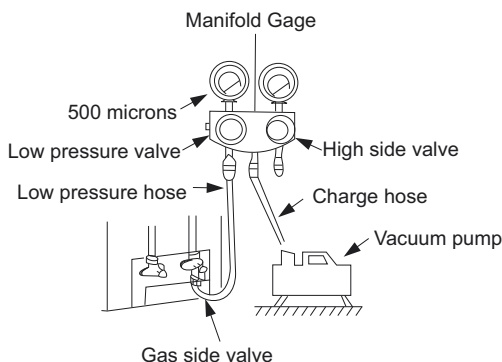

Fig. 7 – Manifold
3. Fully open the low pressure valve of manifold gage (see Fig. 7).